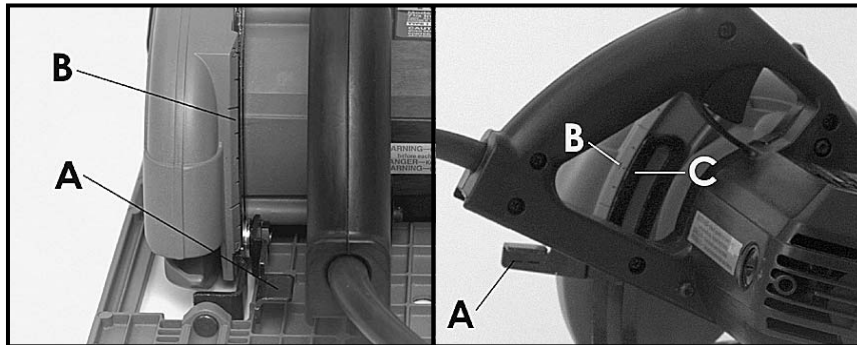

Fig. 4
2. Lift up depth adjustment locking lever (A) Fig. 4, at rear of saw.
**NOTE:** The upper guard (B) Fig. 4, is marked in 1/4" increments for convenience in setting depth of cut. Align the depth segment mark (C) Fig. 4, with the desired depth marking on the guard.